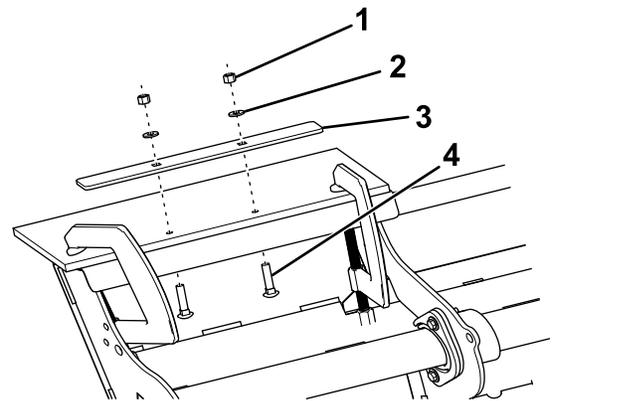

Figure 13
6. Secure a square strap to the holes in each of the short belting sections using 2 carriage bolts (5/16 inch), 2 washers (5/16 inch), and 2 nylon locknuts (5/16 inch) as shown in Figure 13.